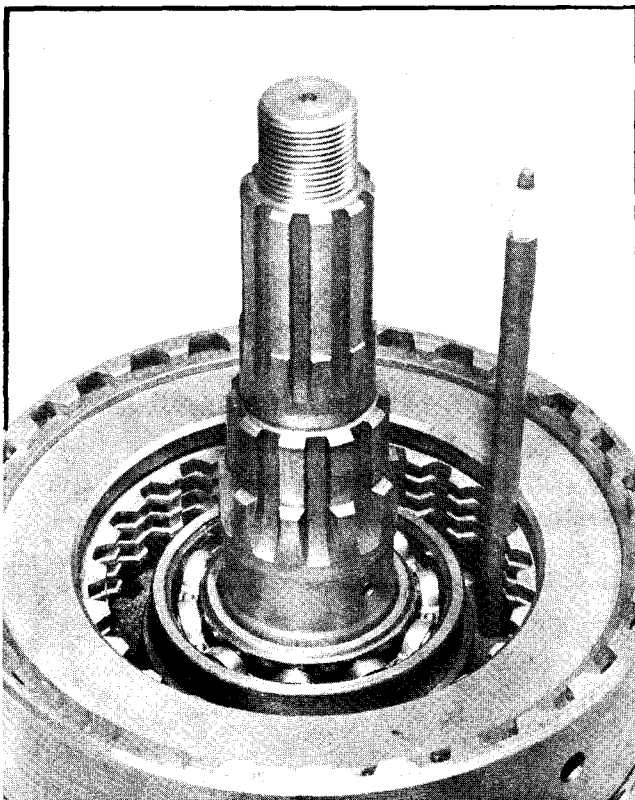

Figure 39
5. Center and align clutch discs using a pencil or suitable straight edge (Figure 39).
3. Center and align clutch discs using a pencil or suitable straight edge as shown in Figure 39.